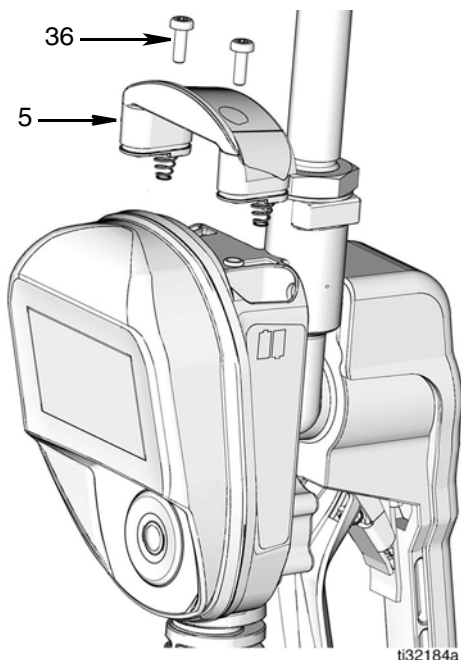

FIG. 3
5. Replace cover (5) and screws (36). Tighten screws hand tight. Do not over-tighten screws (FIG. 3).